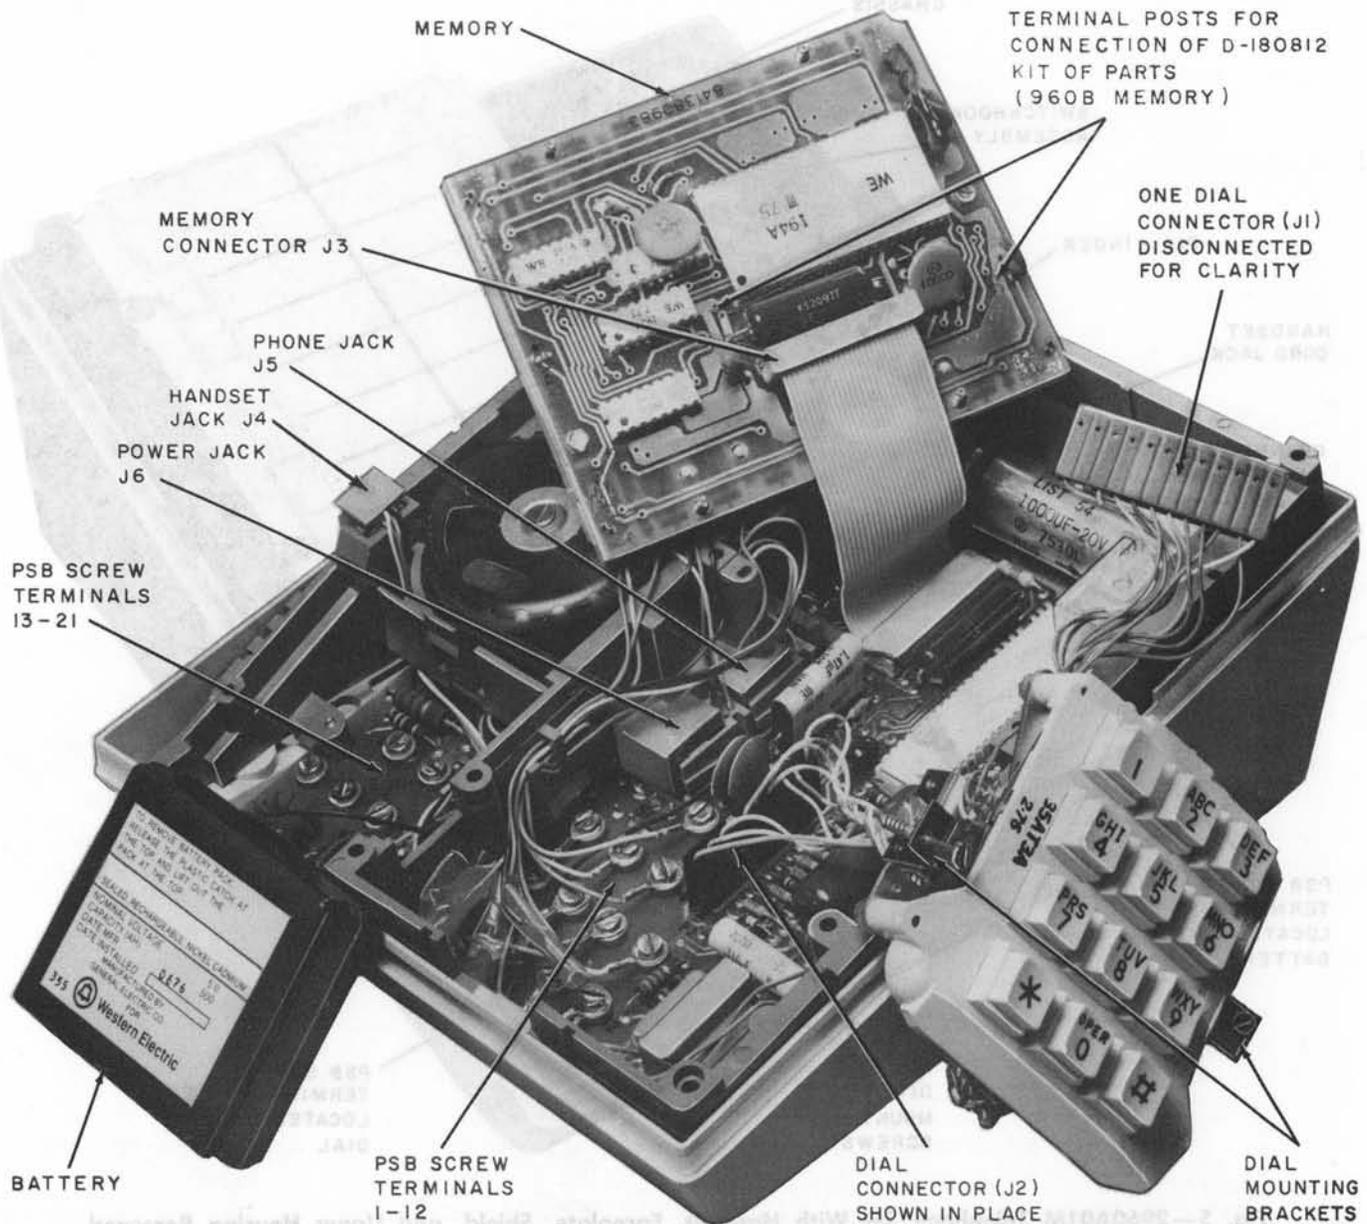

Fig. 6—2960A01M Chassis and Lower Housing With Dial, Memory, and Battery Laid Aside and Shield Removed
(8) Rotate the right edge of the memory upward (Fig. 6) and connect the three leads to the terminal posts on the 960B Memory per Table D.